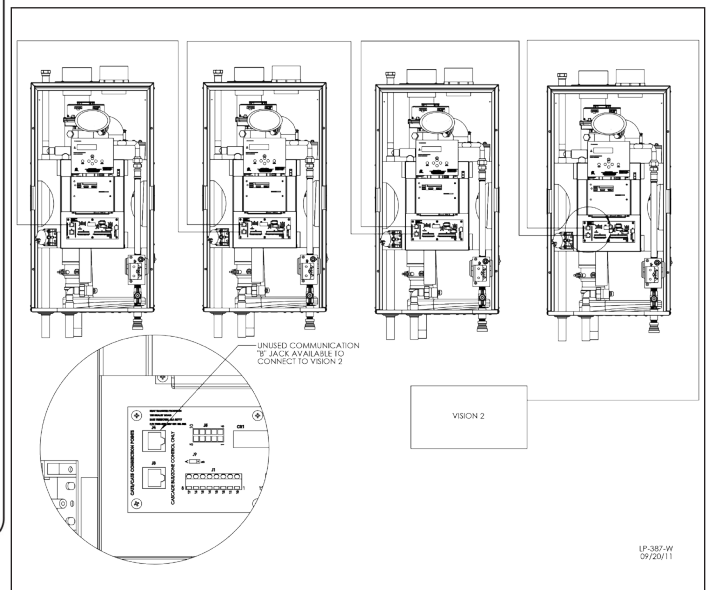

Figure 28 - Wiring Cascade System
1. All low voltage cables should enter the electrical junction box through the provided knock out holes as shown in Figure 28.